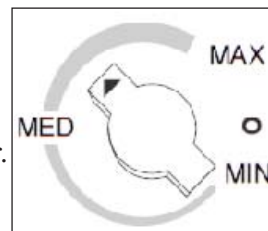

Fig. 1
- When maximum cooling is achieved, turn back the temperature control knob setting to the 10 o'clock position on the graduated blue control dial. See Fig.1.